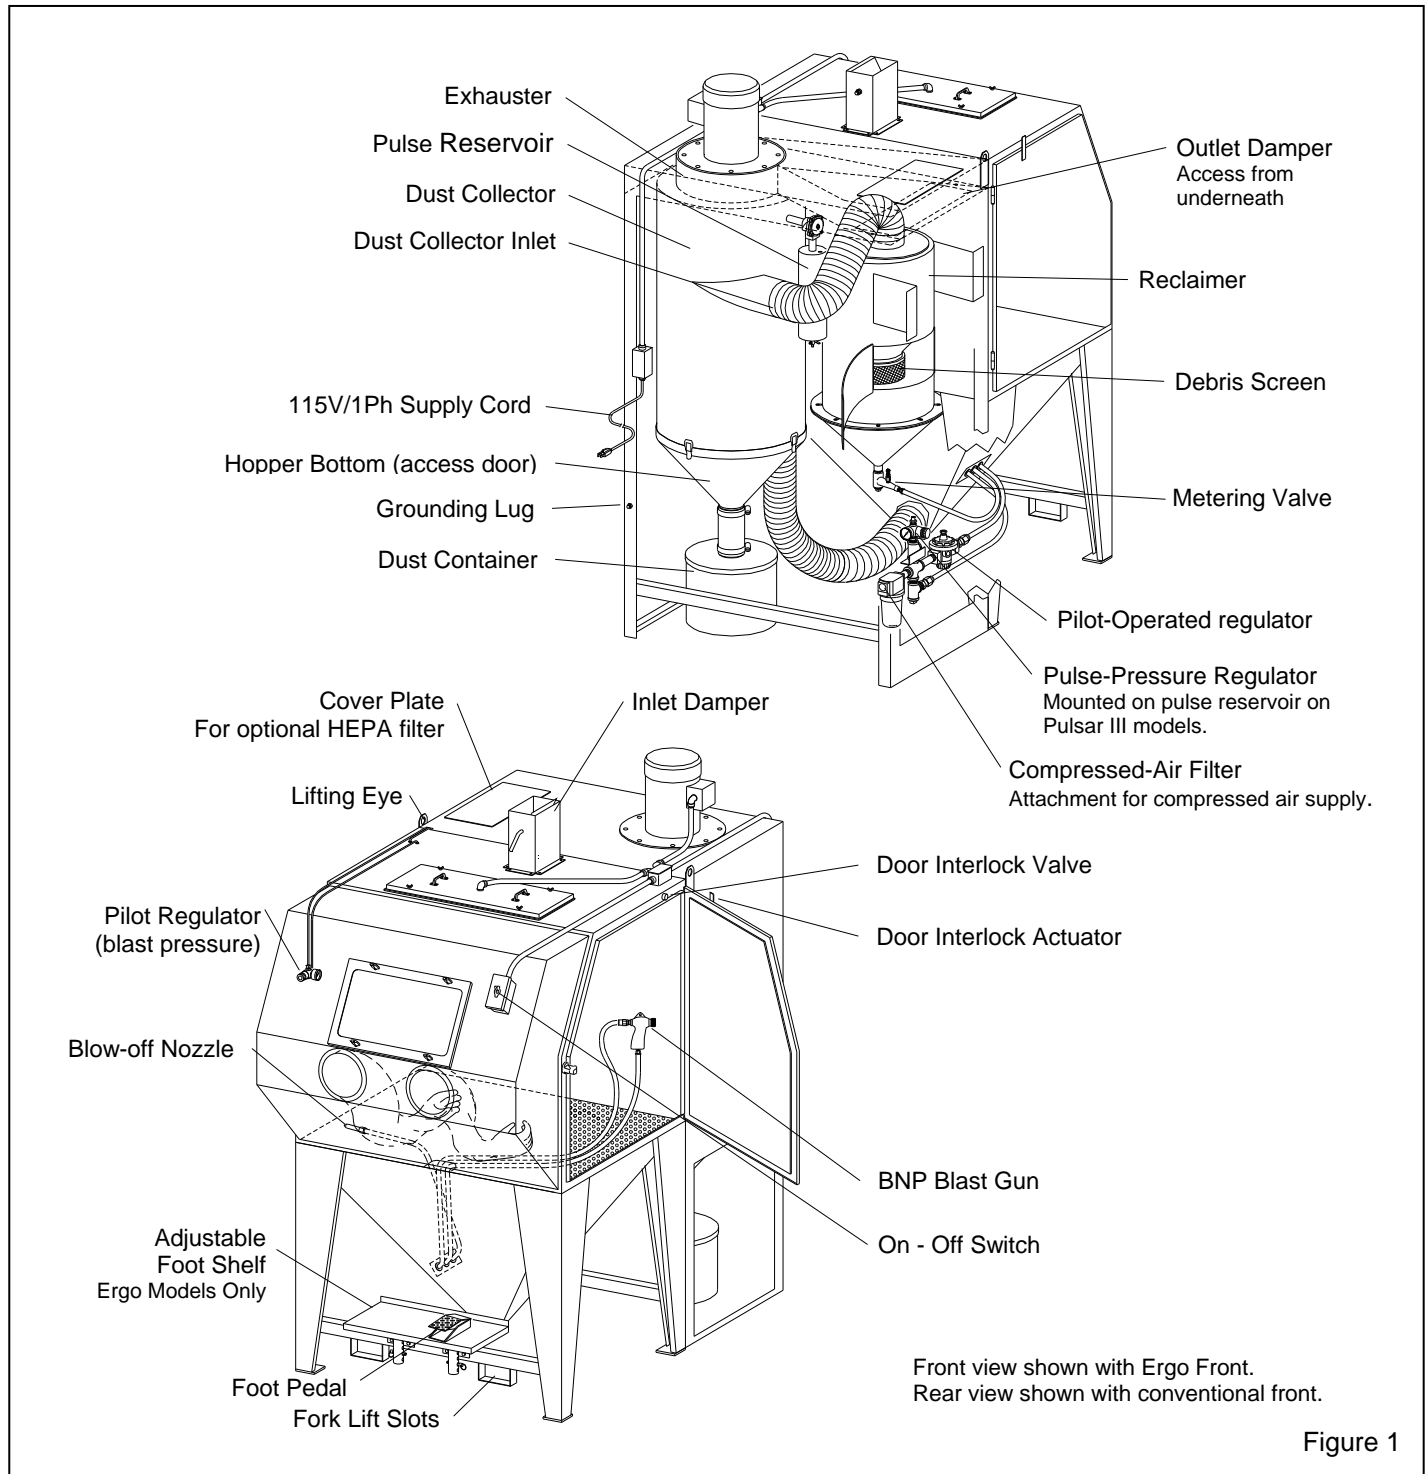

Figure 1
1.3.1 Refer to Figure 1 for arrangement of components. The Pulsar cabinet encloses the blasting environment to provide efficient blasting while maintaining a clean surrounding work area. Production rates are influenced by size of air jet and nozzle, compressor output, working pressure, type and size of media, and angle and distance of the nozzle from the blast surface. All Pulsar suction cabinets consist of two major components.
**2.2.1** Install an air fitting that is compatible with the air supply hose fitting, to the compressed-air filter located on the inside wall of the power module, shown in Figure 1. Refer to Paragraph 2.2.2.